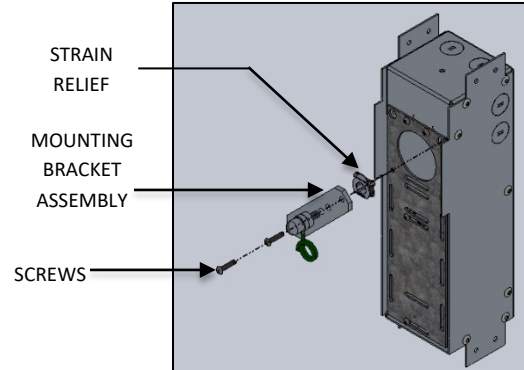

FIG. 6 – MOUNTING BRACKET DISASSEMBLY
2. Remove the Screws securing MOUNTING BRACKET ASSEMBLY, and slide MOUNTING BRACKET ASSEMBLY out of J-BOX along with STRAIN RELIEF provided in it as shown in FIG. 6.